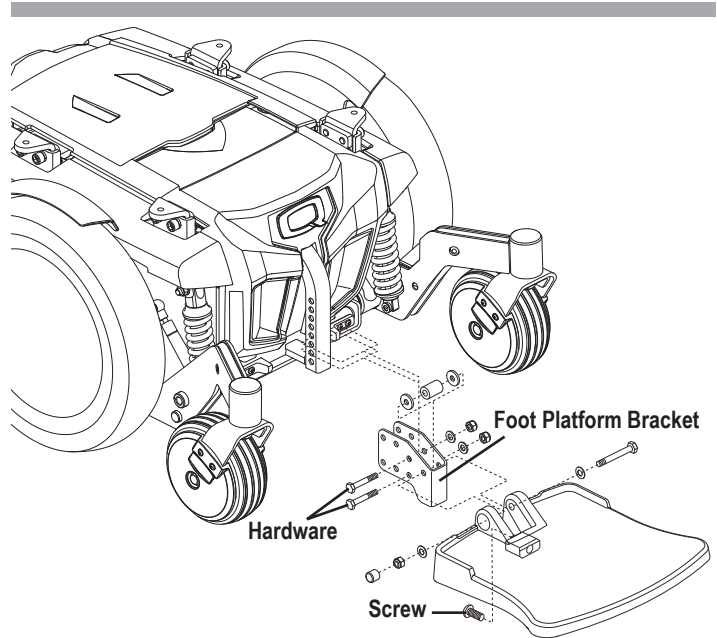

Figure 17. Foot Platform Adjustment
See figure 17.
1. Flip up the foot platform and locate the screw. **See figure 17.**